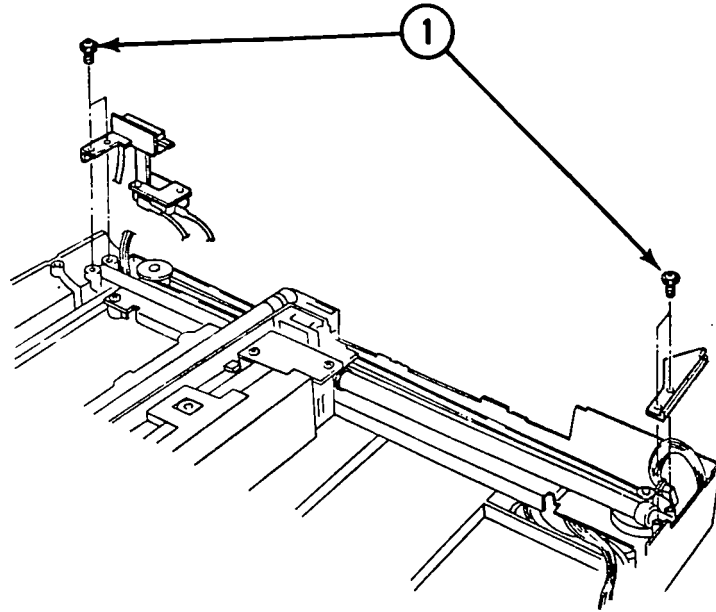

FIGURE 15
- Put the two shaft plates on each end of the shaft and secure them with the four screws (Figure 15, #1). Make sure that the scanner switch cable and connector are sticking out at the front corner of the front plate, so that the connector can be attached later to the top case.